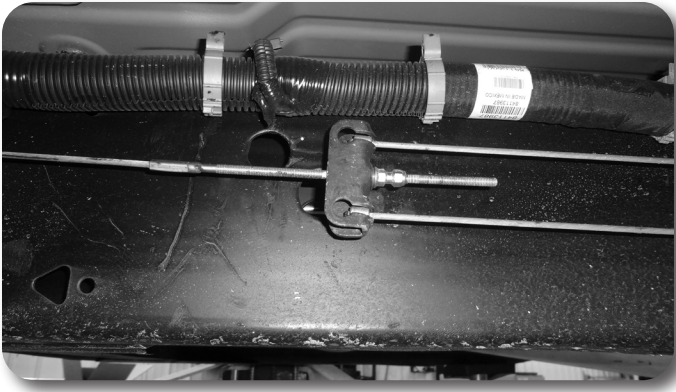

Figure 9
11. Mark the position of the E-brake cable adjuster for later installation. Remove the nut from the E-brake cable adjuster bracket. Pull the E-brake cable back through the mount on the driver's side inner fender. Leave the cable loose at this time. **Figure 9**